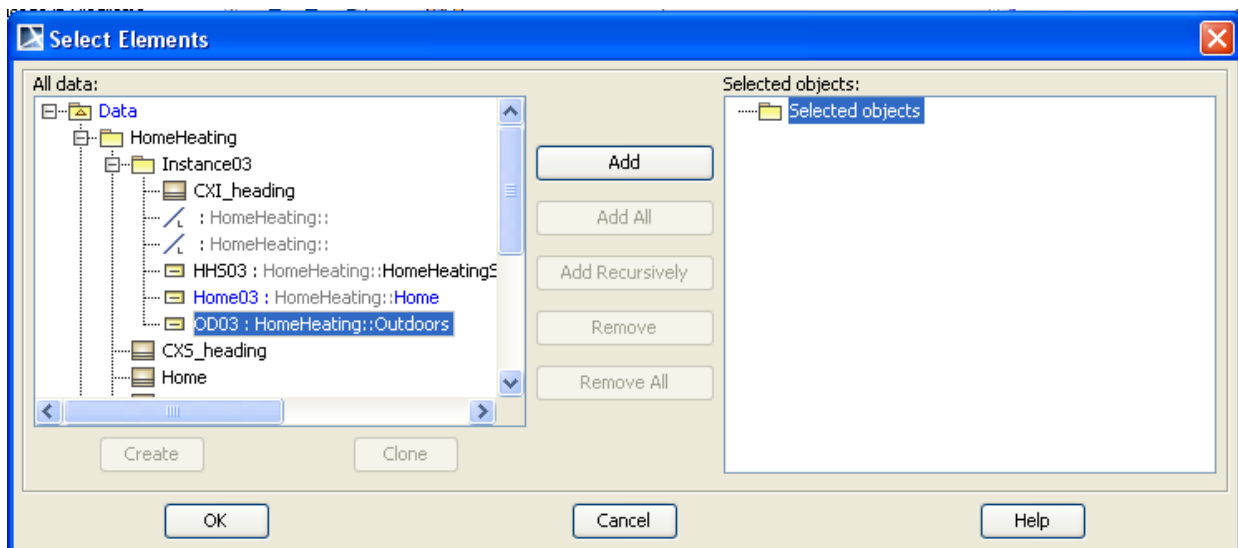

Figure 7.7 Select Elements to link OD03 to OD_Home
- v. Select OD03:HomeHeating:Outdoors in the Select Elements window (see Figure 7.7)